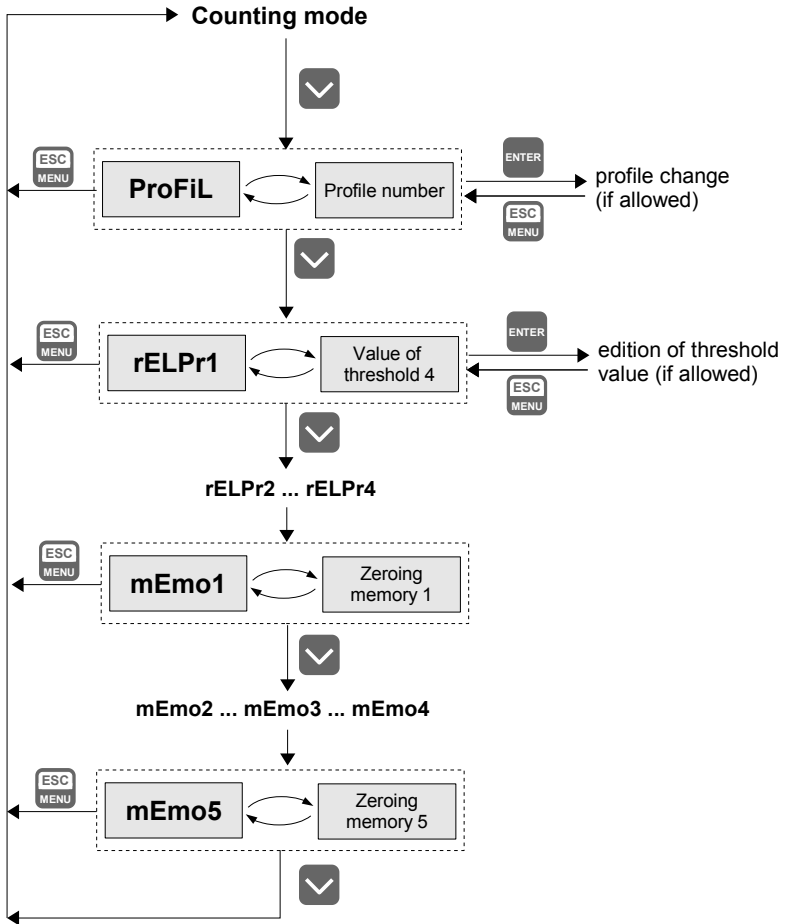

Figure 7.1 Functionality of quick view mode
**"A rEL1"÷"A rEL4"** - this options permits user (**"on"**) or prohibits (**"oFF"**) to modify the thresholds of the relays/LEDs R1 ÷ R4 without knowledge about user password. The functionality of quick view mode is showed in Figure 7.1.